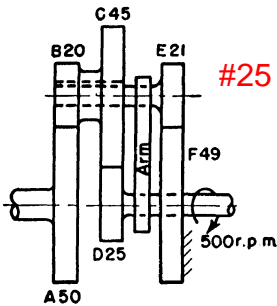

Fig. P 11.17
11.17. Determine the speed and direction of rotation of gear *A* in Fig. P 11.17. Gears *B*, *C*, and *E* are one rigid unit.